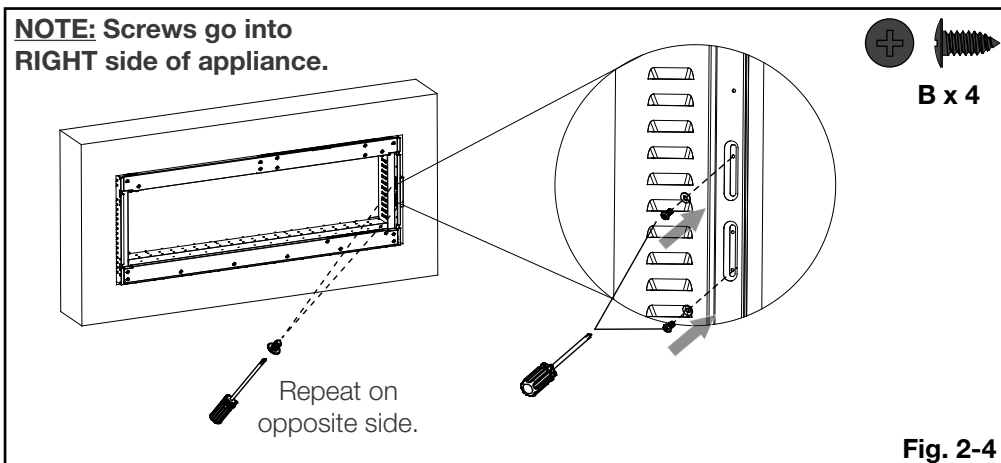

Fig. 2-4
- J. Locate the appliance fully into the opening and position against the mounting brackets. Align the bracket screw hole with the slots in the side of the appliance and screw through the slots to secure the appliance into the mounting brackets. Repeat on opposite side (**Fig. 2-4**).